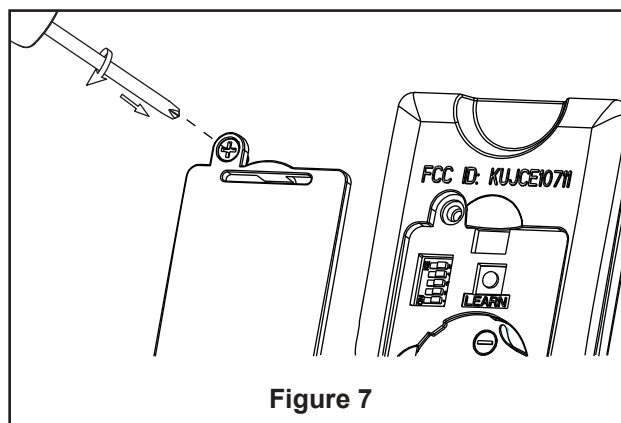

Figure 7
7. Secure the glass to light kit by twisting in a clockwise direction. Twist the glass gradually **until it snaps onto the light kit**. Do not over-tighten. (Figure 7)
9. Replace battery cover on the remote control and secure with the previously removed screw. (Figure 7)